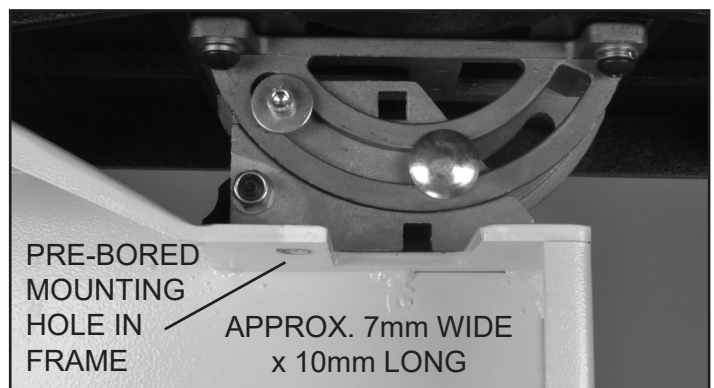

FIGURE 4
5. With the old, lower blade guide and guard assembly removed, make sure that the lower frame area and pre-bored hole(s) is clean of any sawdust or residue left from past saw usage. Figure 4.
7. Position the Guide Assembly onto the lower frame with the small alignment pin/screw, that is on the bottom of the connecting plate, set into the pre-bored hole in the frame. Figures 4, 4A and 5.
**NOTE:** On older models of the 10-325 Bandsaws, the pre-bored mounting hole in the frame (Figure 4) may not be an oval shape to accept both connecting Hex Socket Cap Screw and Alignment Pin that are on the underside of the Retrofit Guide's Connecting Plate. If this is the case, the new lower Tool-less Guides cannot be assembled onto the frame. To solve this, there are 2 options (Option A is recommended):
- B. With a metal twist drill, rotary burr or round file, enlarge the mounting hole to accept both the screw and pin. Make sure that any metal burrs from the process are removed from the frame. Figure 4.